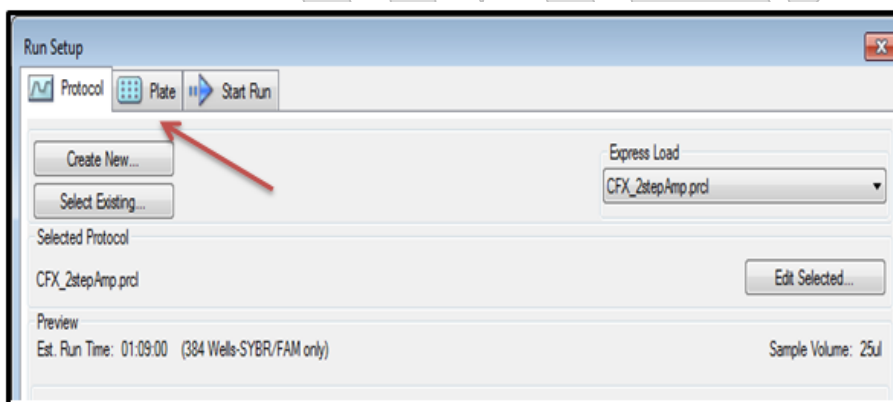

Figure 24: Setting up the plate layout
5.3. Select the Plate tab, as shown in Figure 24, to set up the plate layout.